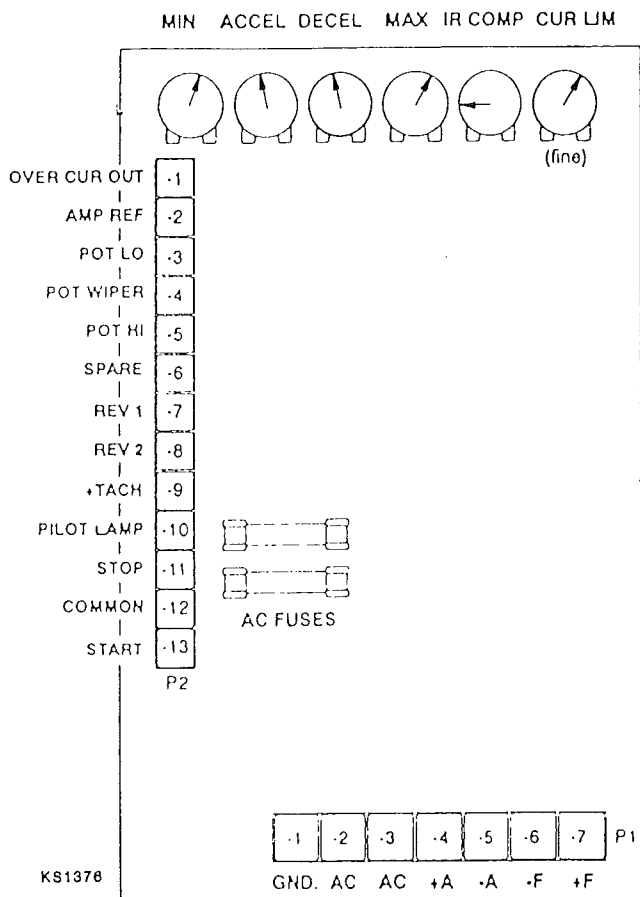

Figure 25 - 500 SERIES SCR BOARD
**NOTE:** Figure 25 shows approximate trim pot settings. Follow adjustment procedure below for final calibration.